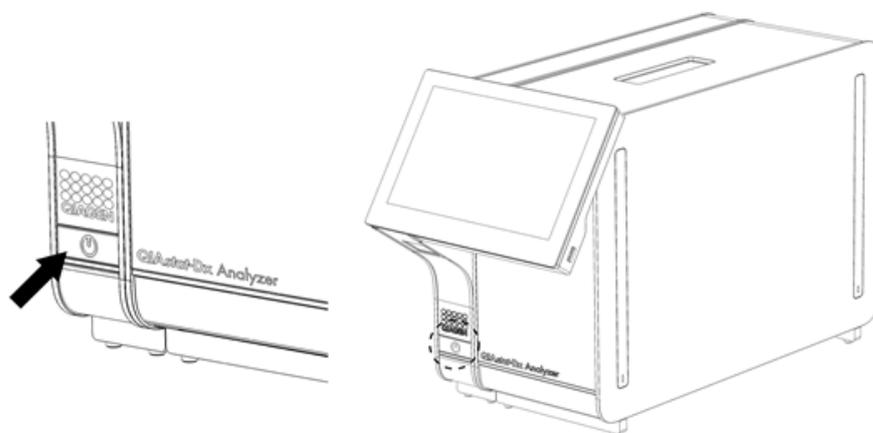

Figure 22. Pressing the ON/OFF button to start the instrument.
1. Press the ON/OFF button on the front of the QIAstat-Dx Analyzer 2.0 to start the unit (Figure 22).